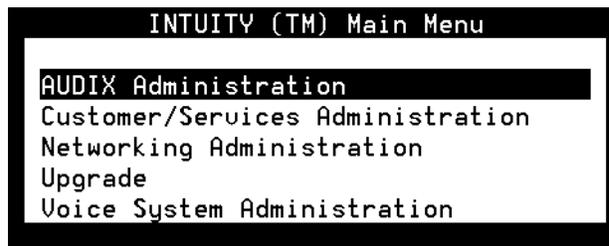

Figure 12-1. Lucent INTUITY Main Menu
2. Start at the Lucent INTUITY Main Menu (Figure 12-1).
1. Starting at the Lucent INTUITY Main Menu (Figure 12-1) select: